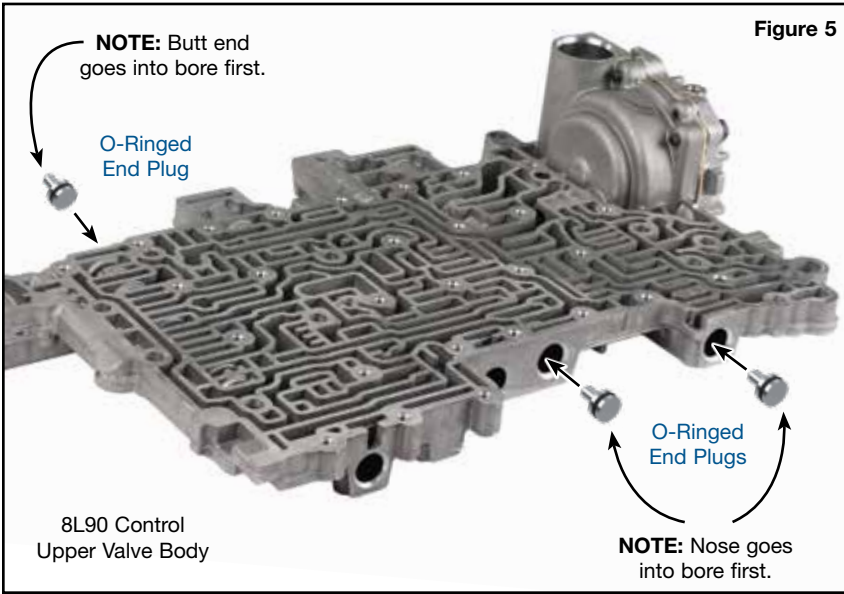

Figure 5
- Install O-ringed end plugs in proper bores and in proper orientation (**Figure 5**).